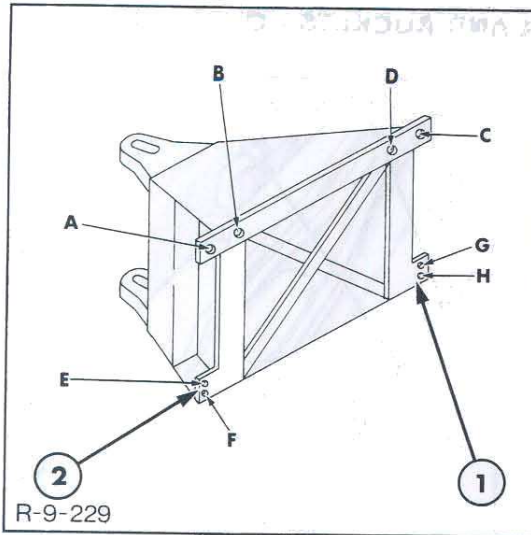

Figure 14
7. Tighten the retaining nuts B and D, figure 14, to a run-in torque of 300 Nm (30 Mkgf, 221 ft lbf).
- Gauge the gap between the link assembly and the backhoe frame, Locations 1 and 2, Figure 14. If each gap is less than 2.0 mm (0.88 in) then no shim pack is required.
9. Tighten the frame retaining nuts to a torque of 970 Nm (100 Mkgf, 715 ft lbf) in the sequence B, D, A, C, E, F, G, H. Refer to Figure 14.